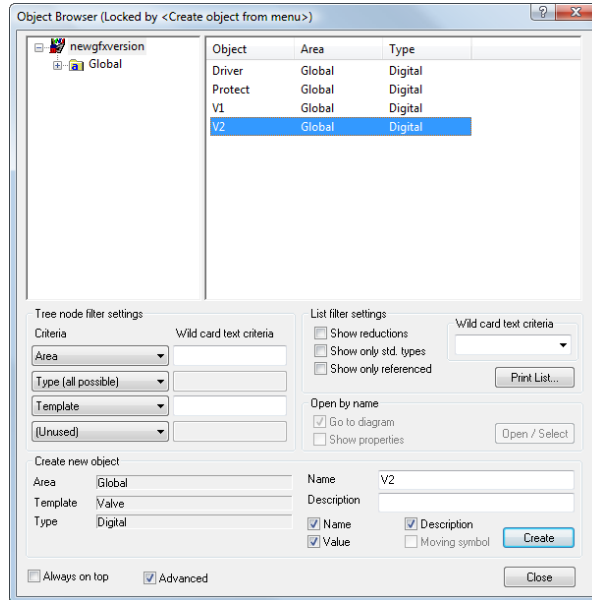

Figure 3.93 The **Object Browser** dialog box appears when we define a combo box.
2. Move the command button, the name and the value to the position shown in Figure 3.93 and resize the button, as required.